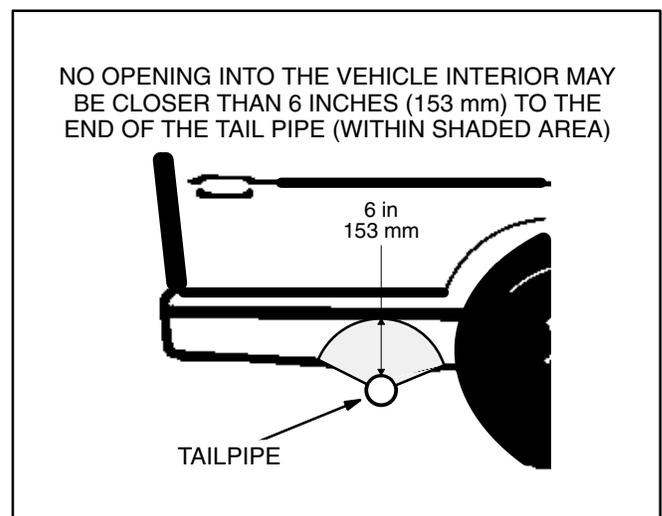
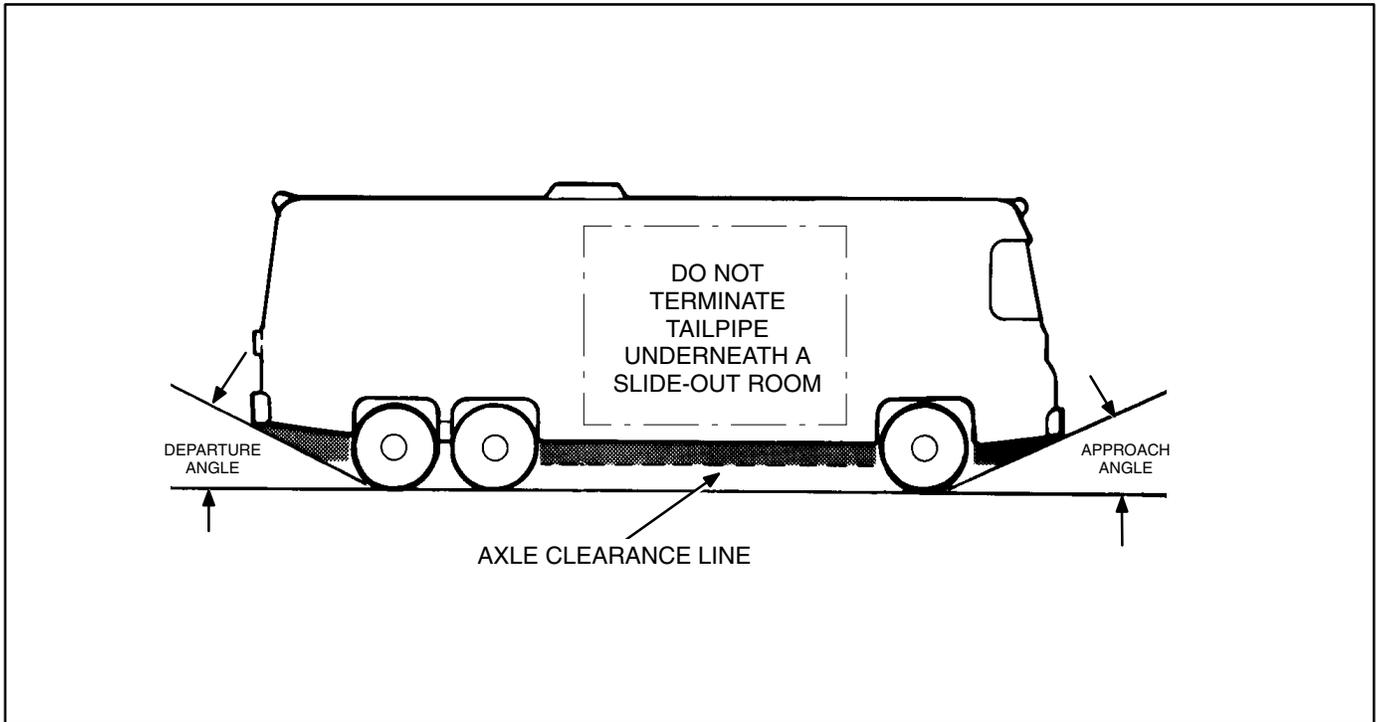

FIGURE 6. MINIMUM DISTANCES TO OPENINGS
FIGURE 7. APPROACH AND DEPARTURE ANGLES AND AXLE CLEARANCE LINE
⚠WARNING *EXHAUST GAS IS DEADLY! To keep exhaust gases from entering the vehicle do not terminate the exhaust tailpipe underneath the vehicle or closer than specified to openings into the vehicle (Figure 6) or route it such that it is likely to be damaged (Figure 7). Use approved materials and parts only.*
Note: Do not terminate the tailpipe underneath a slide-out room (Figure 7), unless the bottom of the slide-out, including skirts and moldings, is at least 3 feet above the end of the tailpipe.
9. Do not terminate the tailpipe such that it is closer than 6 inches (153 mm) to any opening into the vehicle interior (door, window, vent). See Figure 6.
10. Route the tailpipe such that it will not likely be struck when the vehicle is moving. At least keep it out of the approach and departure angles of the vehicle and above the axle clearance line (Figure 7).